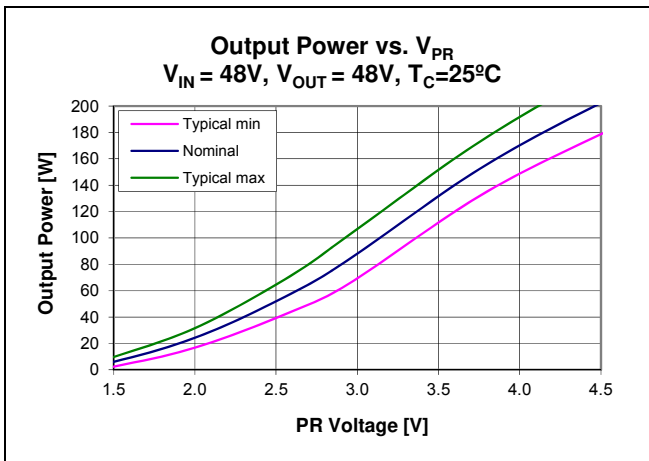

Figure 21 – Output Power vs.  $V_{PR}$ ;  $V_{IN} = 48V$ ,  $V_{OUT} = 48V$ ,  $T_{CASE} = 25^{\circ}C$
**Control node (PR)** is the input to the control node which determines the powertrain timing and ultimately the module output power (Figure 21). An internal 0.5mA current sink is always active. The bi-directional buffer between PR and the control node has two states. In normal operation, PR will be above the 0.79V switching threshold, and will drive the control node through the buffer. An internal 7.4V clamp determines the maximum output power that can be requested of the modulator.